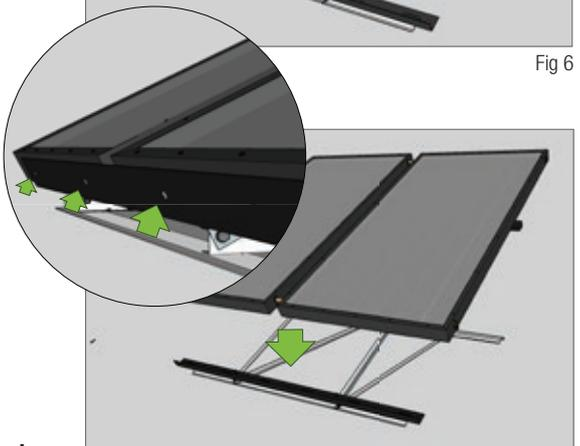

Fig 7
11. Position the collector/s between the black collector mounting rails (Fig 7)
13. Secure the collector panel/s into position by screwing through the black collector rails and into the collector/s using the supplied screws (Fig 7)